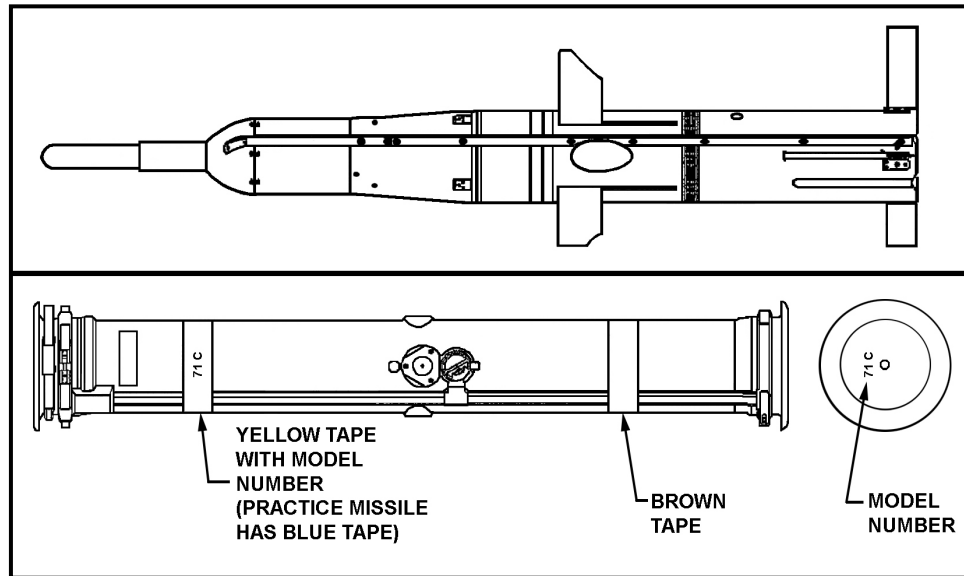

Figure 1-18. ITOW missile and identification.
b. **Improved TOW (ITOW, BGM- and BTM-71C-Series)** (Figure 1-18). The ITOW was the first TOW missile with a stand-off probe. It was designed to provide better penetration of the armor while using the 5-inch warhead. There is a crush switch in both the probe and the curved nose surface behind the probe, which allows the warhead to detonate upon impact with the target. The ITOW missile has a range of 3,750 meters and both HEAT and practice warheads are available.